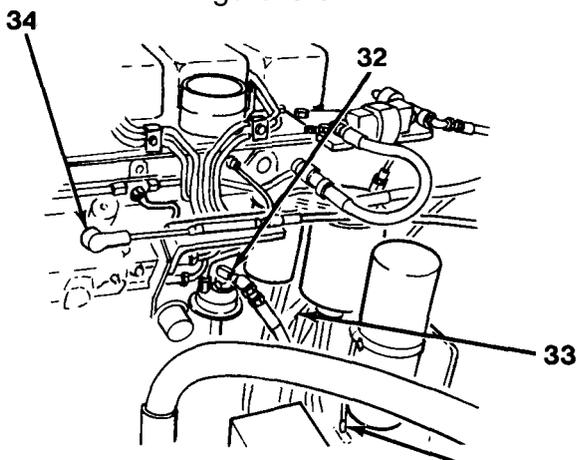

Figure 6-4
11. Disconnect fuel hoses (32) and (33), injector pump throttle cable (34) and cold start cable (35, Figure 6-4).